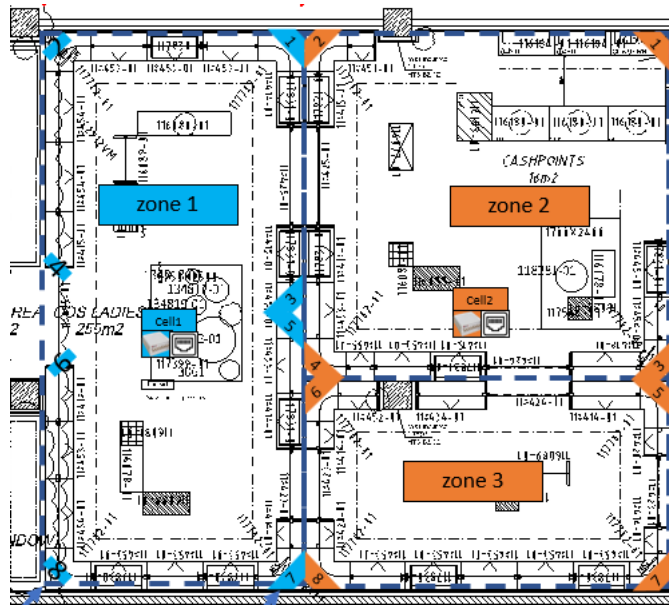

Figure 4a: Typical 8-port Antenna Set up – using ports 1,2,3,4,5,6,7,8 or 1,2,3,4
- 3) Attach the antenna cables to the antenna ports on the Reader as detailed in the installation diagram (Figure 4a & 4b). The cable connectors should be as tight as can be comfortably achieved by hand, but under no circumstances should tools be used to tighten.